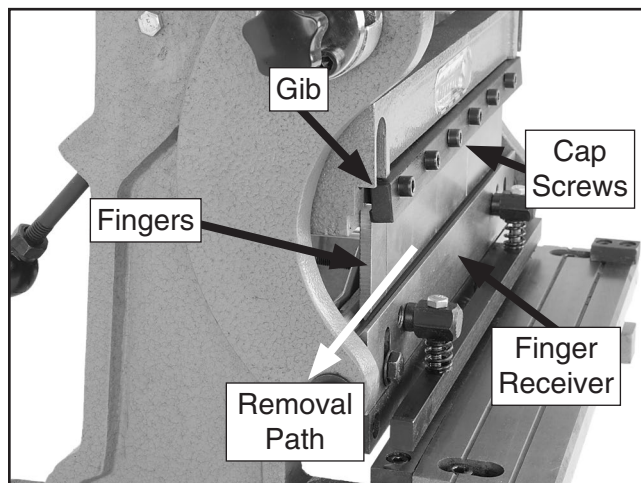

Figure 13. Brake finger components.
8. Use the hand crank to position the brake finger receiver close to the brake fingers, as shown in **Figure 13**.
9. Loosen the gib cap screws to release the fingers, then remove the fingers from the side of the finger receiver, as shown in **Figure 13**.